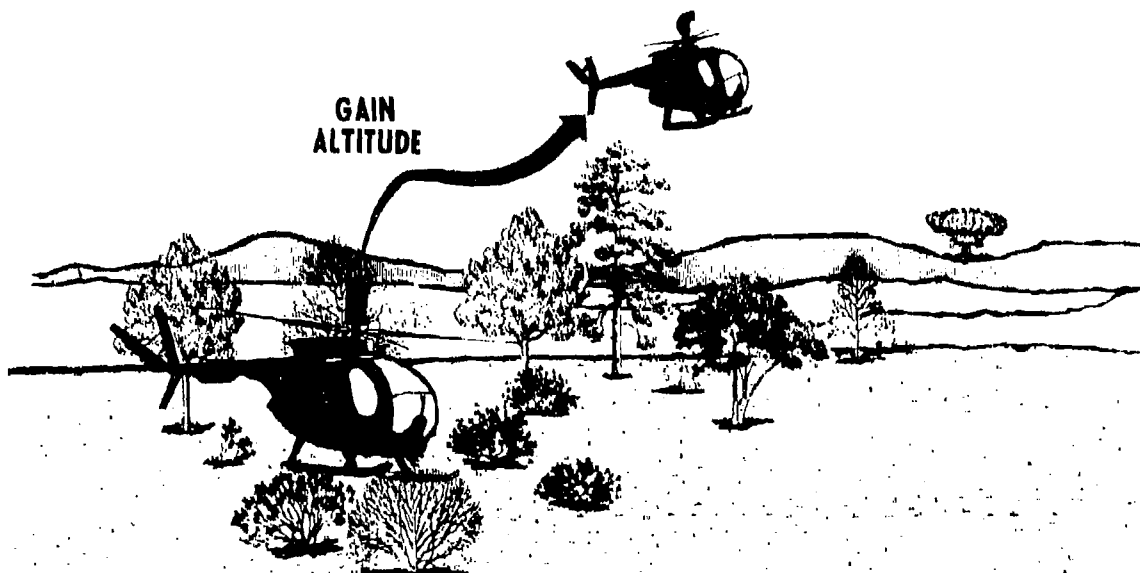

FIGURE 30. PROTECTIVE ACTIONS FOR AN AIRCRAFT.
--"Gain altitude." Pilots should attempt to gain as much altitude as possible since the probability of aircraft survival is based on altitude. The greater the altitude of the aircraft, the longer the pilot has to prevent a crash. Pilots should immediately cease flying nap-of-the-earth (NOE) flight levels in order to gain altitude and possibly distance from the burst. Gaining altitude will also take the aircraft out of the more severe dust, debris, and missile environment close to the ground (see figure 30).